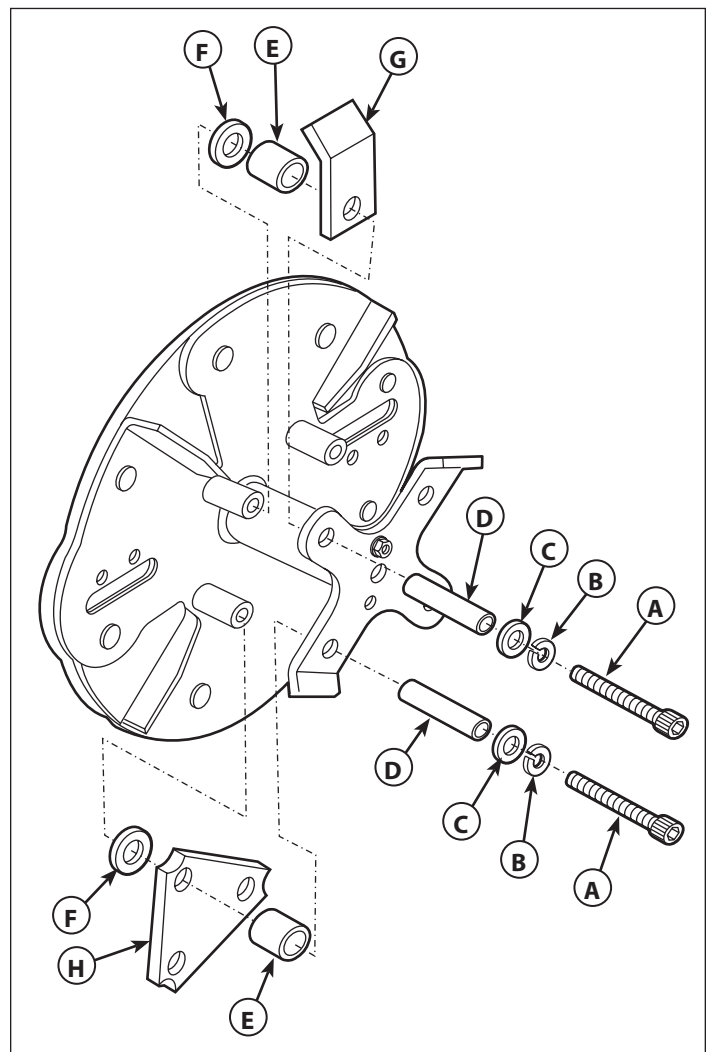

FIGURE 19 - Rotor Housing
5. Note the assembly sequence of the hardware used to secure the hammers. Using a 5/16" allen wrench remove the socket head cap screw (A) and related hardware. **SEE FIGURE 19**